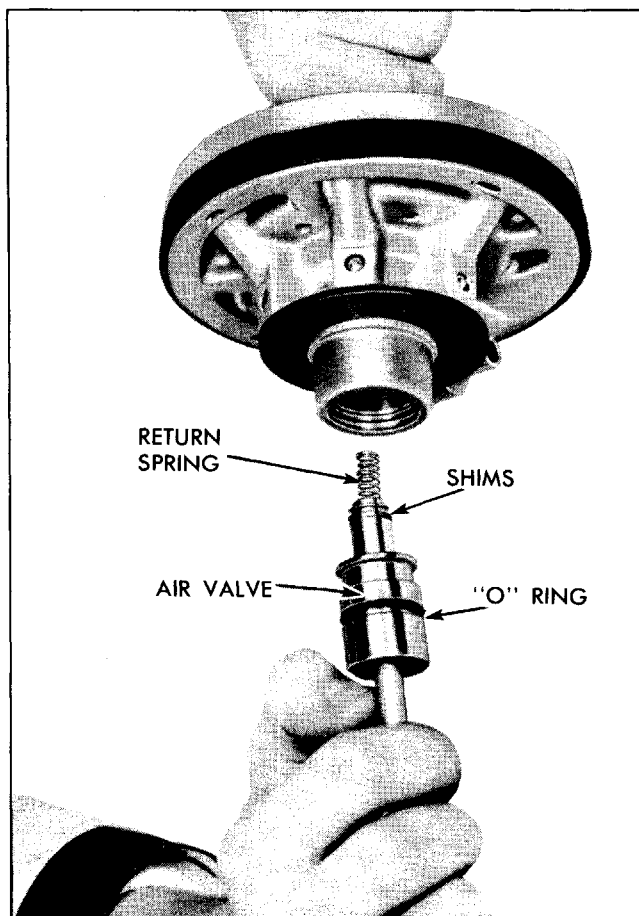

Fig. 5-53 Removing or Replacing Air Valve Assembly
3. Carefully pull out air valve and push rod while holding piston in vertical position. Valve spring and shims will come out with the air valve (Fig. 5-53). **CAUTION:** Lift out spring and make note of number of shims which fit over valve shank and rest on valve shoulder.
4. Remove "O" ring from air valve (Fig. 5-53).